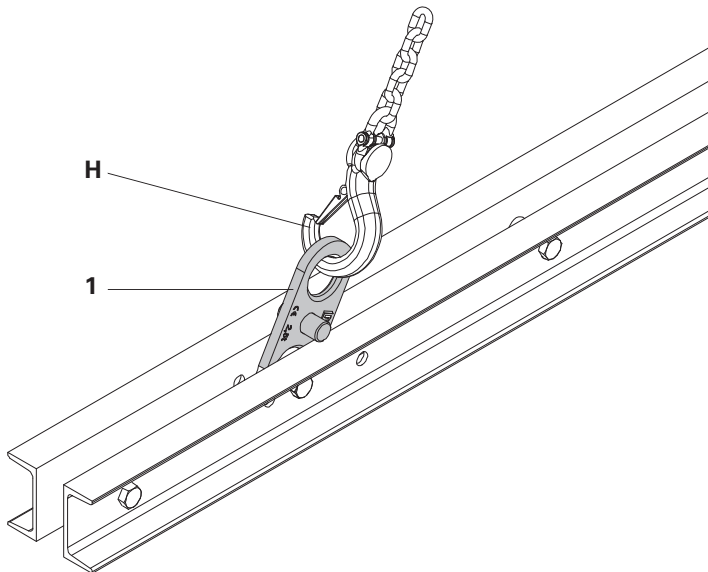

Fig. 5
Attach Hook (H) of the lifting gear in the upper hole (1) of the Crane Eye BR-2 2.5 t and close. (Fig. 5)